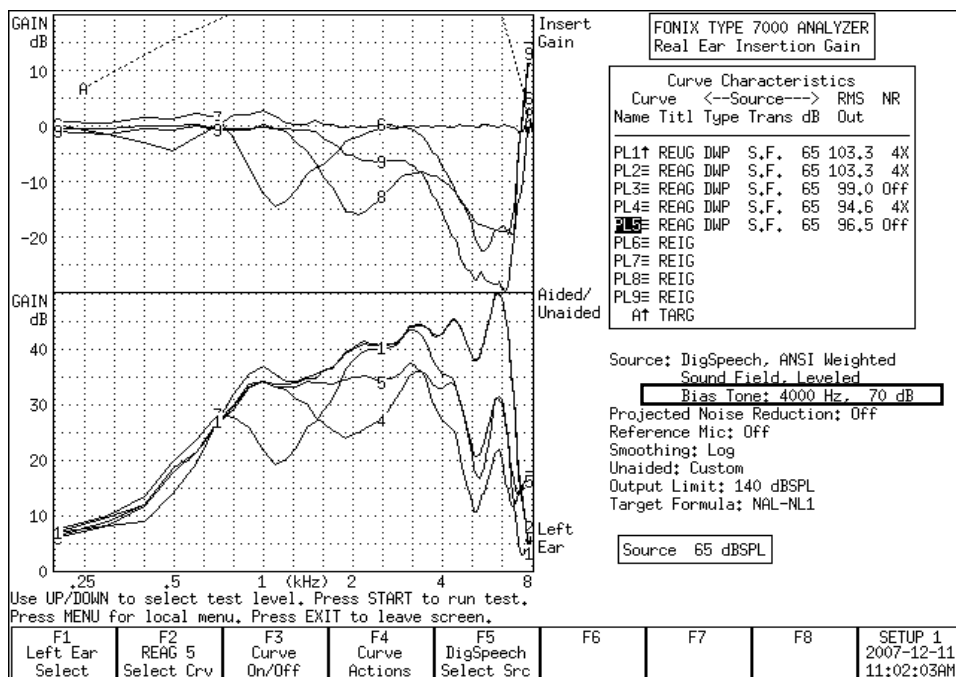

Figure 55 – Real-ear noise reduction verification using bias tones
10. Use the right and left arrow keys to select the frequency of the bias tone. Note the bias tone frequency location, as indicated in the boxed section of Figure 55.